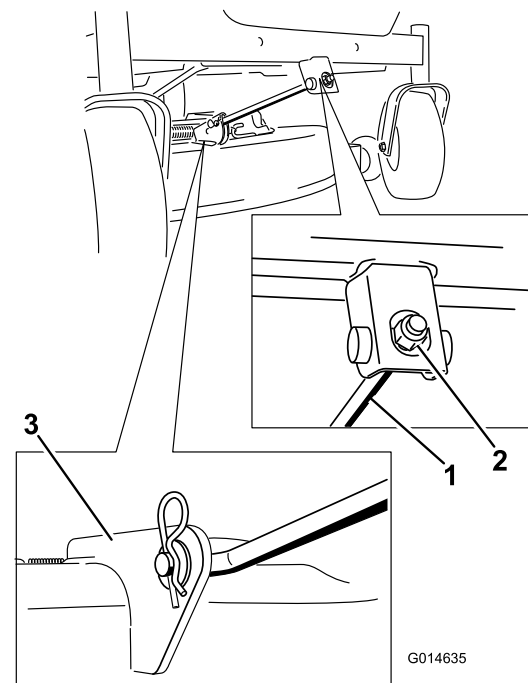

Figure 76
5. Remove the hairpin cotter from the front support rod, and remove the rod from the deck bracket (Figure 76).
8. Attach the front support rod to the mower deck with the clevis pin and hairpin cotter (Figure 76).